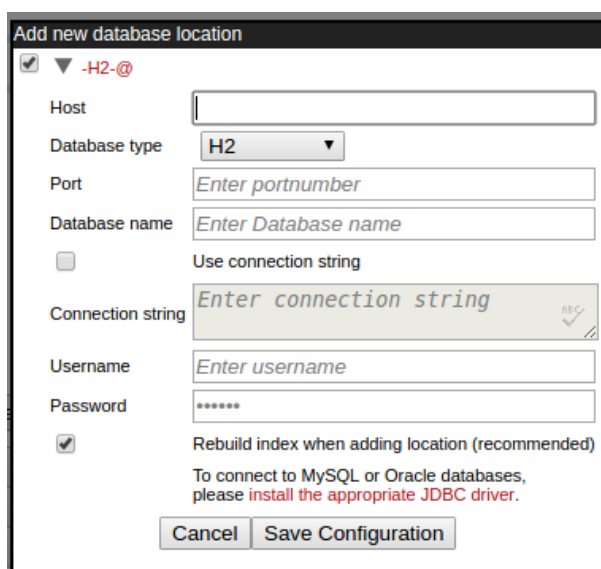

Figure 3.2: Add new database location.
- Under the **Database locations** heading, click the **Add New Database Location** button. See figure 3.2. Enter the required information about host, port and type of database. A connection string is generated from this. A custom connection string can be entered instead. The user name and password refers to the user role on your Database Management System (DBMS), see section 2.10.